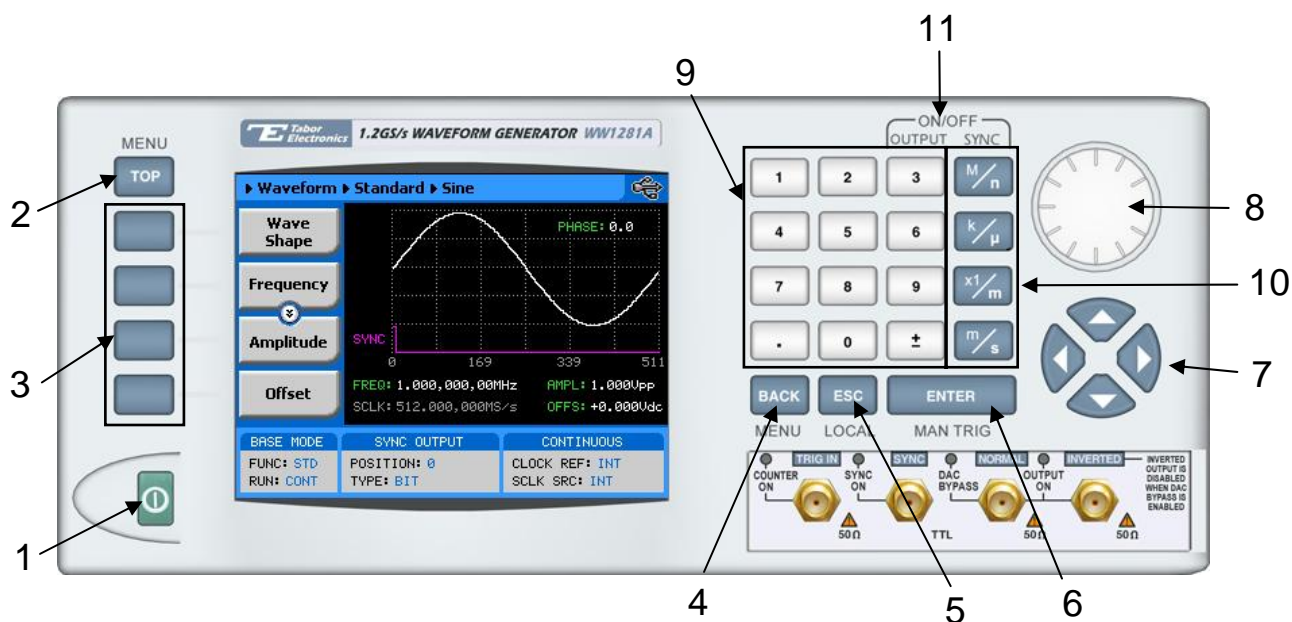

Figure 1-8, 1281A Front Panel Controls
Front panel controls and keys are grouped in logical order to provide efficient and quick access to instrument functions and parameters. Refer to Figure 1-8 throughout the following description to learn the purpose and effect of each front panel control.
**The index in the following paragraphs point to the numbered arrows in Figure 1-8.**